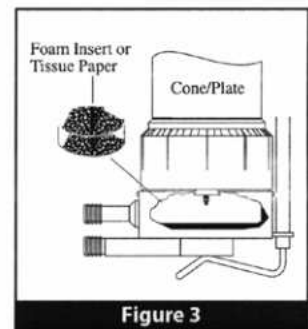

Figure 3
- For cone/plate instruments, please remove the cone spindle and carefully pack in place in the shipping case. If available, use the original foam insert or roll up one sheet of tissue paper (or similar) and place between the spindle coupling and cup assembly (see Figure 3). This will help prevent damage in shipping.